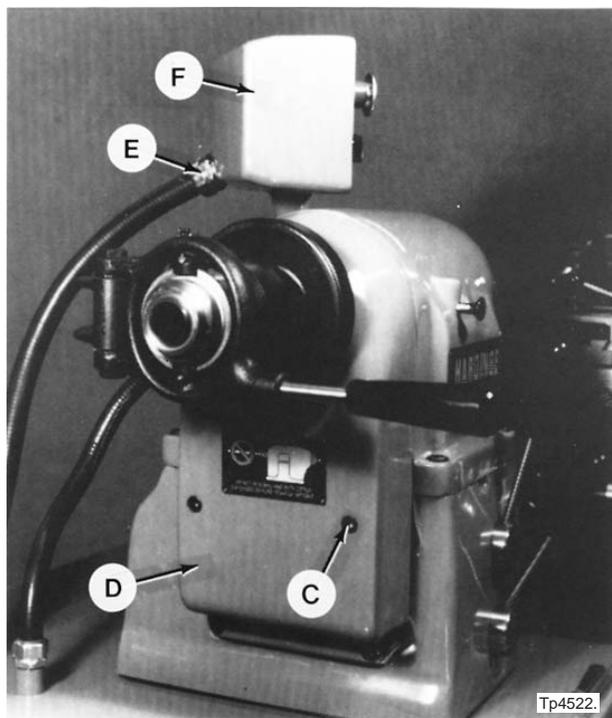

Figure 4.66 - Headstock Cover for TFB®-H Machine
On TFB®-H machines, remove four screws "C", Figure 4.66, and cover "D".
It may be necessary to remove cable nut "E", Figure 4.66, to remove variable speed control head "F".
28. Lift variable speed control head "F", Figure 4.66, straight off.
18. Replace variable speed control head “F”, Figure 4.66 .